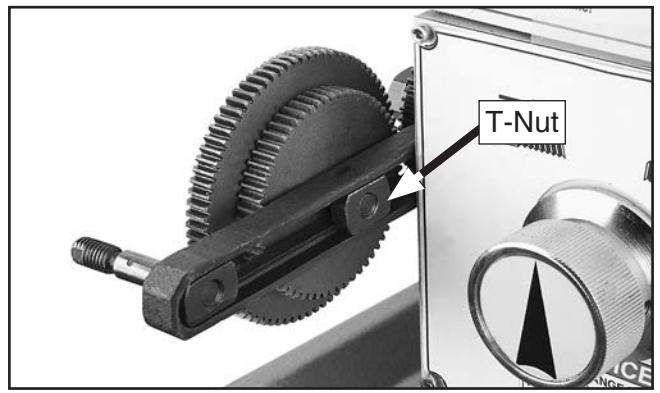

Figure 83. 80T/60T gear threaded onto T-nut.
16. Thread short end of 80T/60 gear shaft into T-nut on adjuster until finger tight (see **Figure 83**).